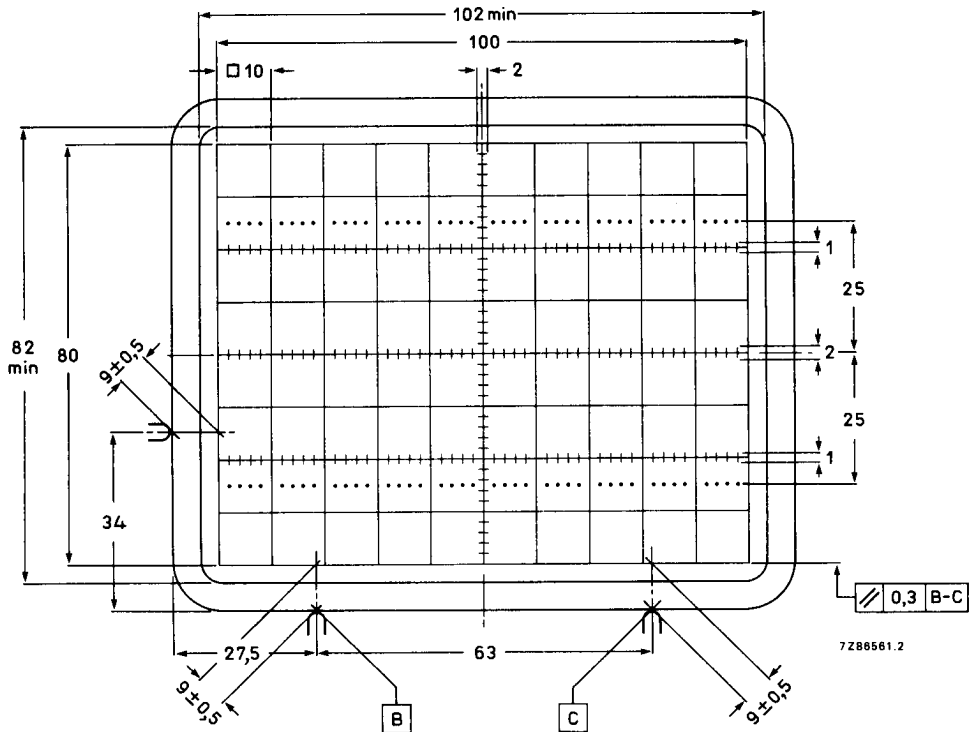

Fig. 4 Front view of tube with internal graticule, type 93. The faceplate reference points are used for aligning the graticule with the faceplate.
Internal graticule	type 93; see Fig. 4
The tube can be mounted in any position. It must not be supported by the socket and not by the base region alone. The reference points on adjoining edges of the faceplate (see Fig. 4) enable the tube to be mounted accurately in the front panel, thus providing optimum alignment of the internal graticule.
4. Reference points on faceplate for graticule alignment (see Fig. 4).
1. As the frit seal is visible through the faceplate, and not necessarily aligned with the internal graticule, application of an external passe-partout with open area of max. 102 mm x 82 mm is recommended. The internal graticule is aligned with the faceplate by using the faceplate reference points (see Fig. 4).